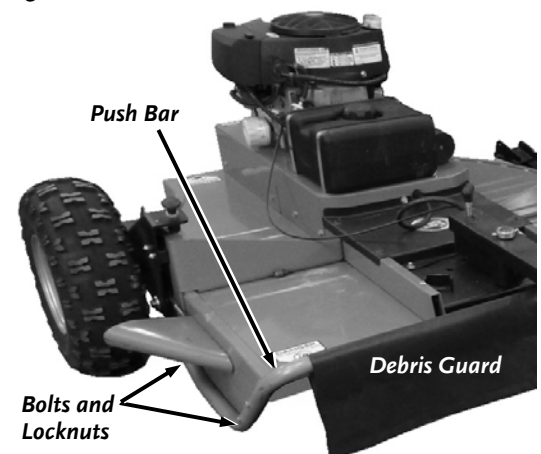

Figure 34
5. Using two 1/2" Wrenches, remove the four Bolts and Locknuts on each side of the Brush Guard to remove the Brush Guard from the Deck (**Figure 34**).